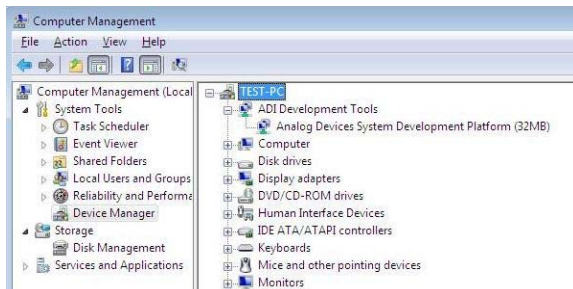

Figure 14. Device Manager
4. If the board does not appear to be functioning, ensure that the ADC evaluation board is connected to the SDP-H1 board and that the board is being recognized in the Device Manager, as shown in Figure 14.